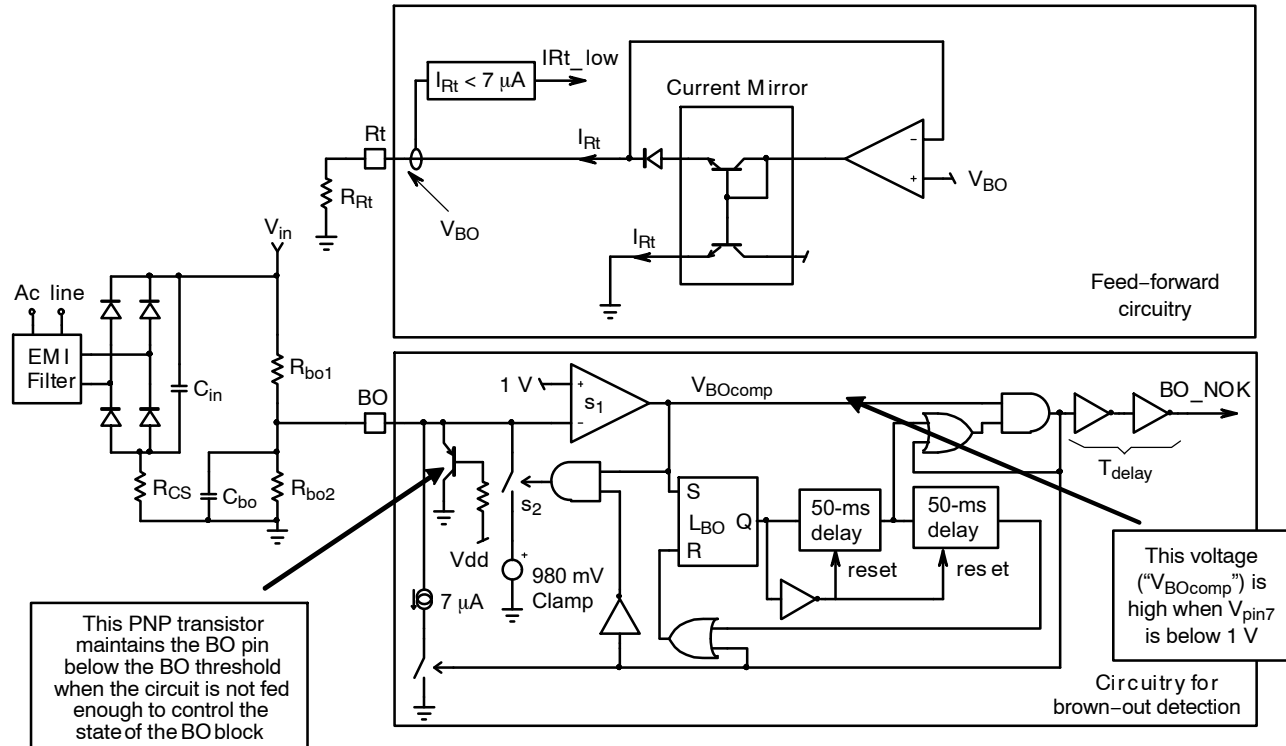

Figure 19. Brown-out Block
In nominal operation, the voltage applied to pin7 must be higher than the 1 V internal voltage reference. In this case, the output of the comparator BO_Comp (V_{BOcomp}) is low (see Figure 19).
can be detected. This is the role of the second 50-ms timer of Figure 19:
- The OPAMP output is separated from pin7 (Figure 19) to prevent the operational amplifier from maintaining 1 V on pin7 (as done by the switches s_1 and s_2 in the representation of Figure 19). Instead, V_{pin2} drops to the value that is externally forced (by V_{in} , R_{bo1} , R_{bo2} and C_{bo2} in Figure 19). As a consequence, the OPAMP output remains high and the “ BO_NOK ” signal stays high until the line recovers.
As shown by Figure 19, The BO circuit also generates an internal current proportional to the input voltage average value (I_{Rt}). The pin7 voltage is buffered and made available on pin 3. Placing a resistor between pin 3 and ground, enables to adjust a current proportional to the average input voltage. This current (I_{Rt}) is internally copied and squared to form the charge current for the timing capacitor of each phase. Since this current is proportional to the square of the line magnitude, the conduction time is made inversely proportional to the line magnitude. This feed-forward feature makes the transfer function and the power delivery independent of the ac line level. Only the regulation output (V_{REGUL}) controls the power amount. If the I_{Rt} current is too low (below 7 μA), the controller goes in OFF mode to avoid damaging the MOSFETs with too long conduction time.